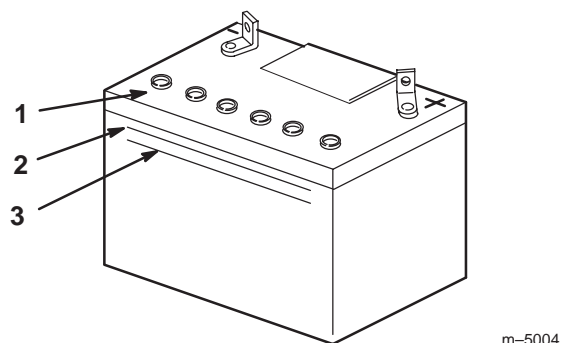

Figure 59
2. Look at the side of the battery. The electrolyte must be up to the **upper** line (Fig. 59). Do not allow the electrolyte to get below the **lower** line (Fig. 59).
3. Remove the vent caps from the battery (Fig. 59).
4. Slowly pour distilled water into each battery cell until the level is up to the **upper** line (Fig. 59) on the battery case.
5. Wait five to ten minutes after filling the battery cells. Add distilled water, if necessary, until the electrolyte level is up to the **upper** line (Fig. 59) on the battery case.